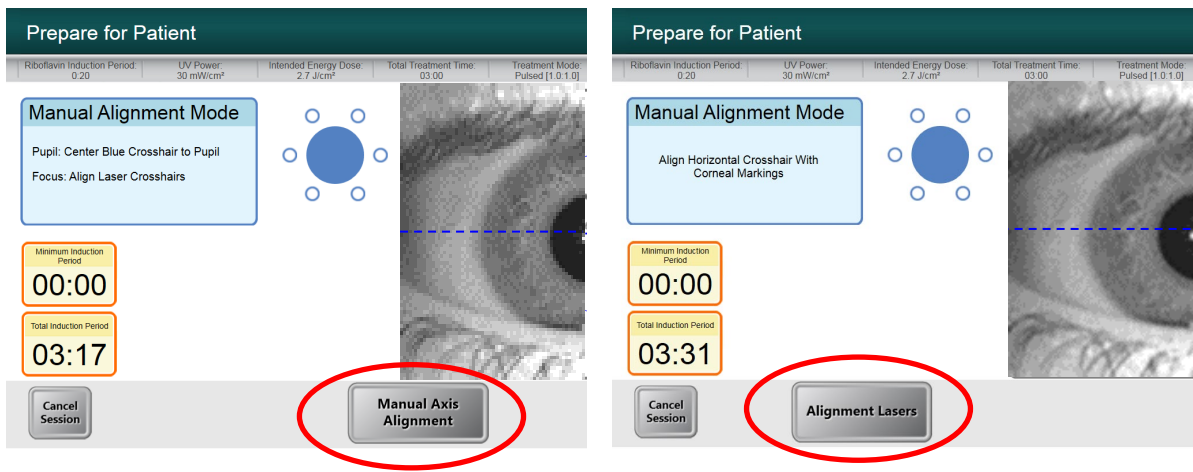

Figure 5-25. Toggling between Manual Axis Alignment & Alignment Lasers
- Within Manual Alignment Mode, the user can toggle between Manual Axis Alignment for aligning the axis to corneal markings on the patient's cornea, and Alignment Lasers for manual alignment in X-Y and Z direction. See Figure 5-25.